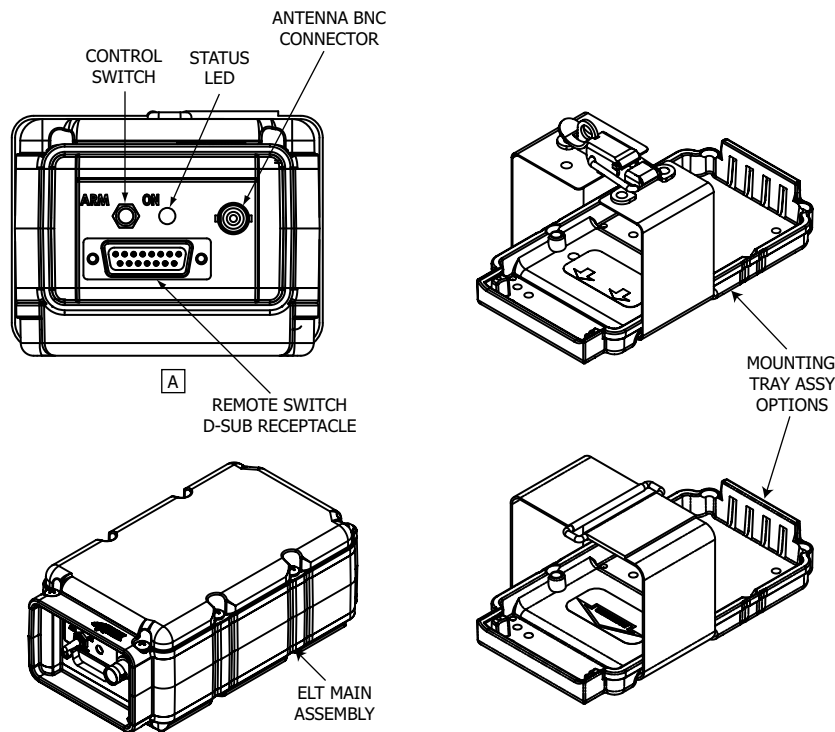

Figure 2 ME406 Series ELT and Mounting Tray Assembly
- (1) The ME406 Series ELT main assembly is housed in a high impact, fire resistant, polycarbonate plastic case and mounted in a tray made of similar material. See Figure 2 ME406 Series ELT and Mounting Tray Assembly.